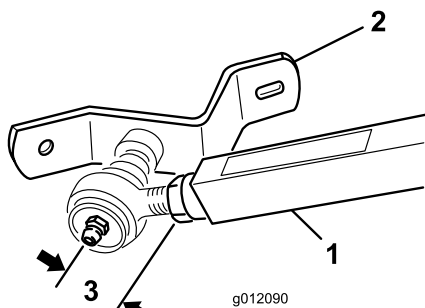
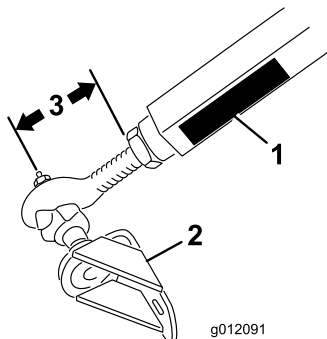

Figure 4
Figure 5
2. The right and left ball joints are properly adjusted when the distance from the end of the lift arm nut to the center of the ball joint grease fitting is 1-5/8 inch (41 mm) (Figure 4 and Figure 5).